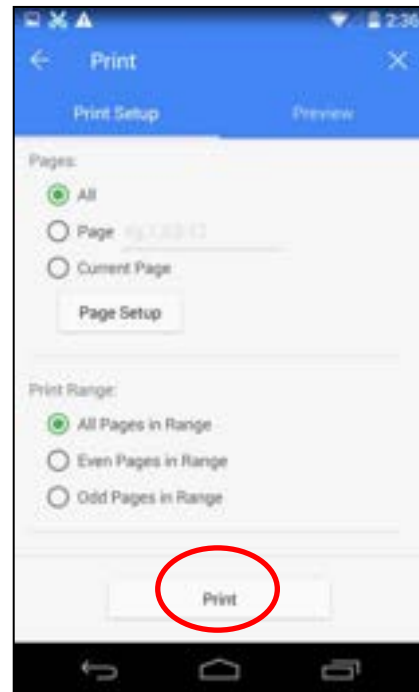

Figure 28
4.4 When the "Print" interface pops up, click "Print", as shown in Figure 28;